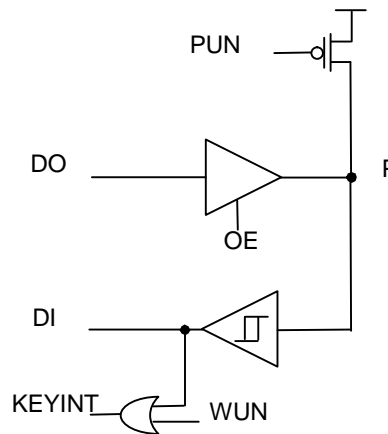

Figure11.1 Ports I/O block diagram
A8125 has 24 Digital I/O Pins. There are separated to 3 Ports (Port0, Port1 and Port3) and each of the Port pin can be defined as general-purpose I/O (GPIO) or peripheral I/O signals connected to the timers, UART, I2C and SPI functions. Thus, each pin can also be used to wake A8125 up from sleep mode. User can select each pin function by setting register. Each port has itself port register like P0 (0x80), P1 (0x90) and P3 (0xB0) that are both byte addressable and bit addressable. When reading, the logic levels of the Port's input pins are returned. Each port has three registers to setting Pull-up (PUN), Output-enable (OE) and Wake-up enable (WUN). As shown the bellow block diagram, Fig. 11.1. Unused I/O pins should have a defined level and not be left floating. One way to do this is to leave the pin unconnected and configure the pin as a general-purpose I/O input with pull-up resistor.